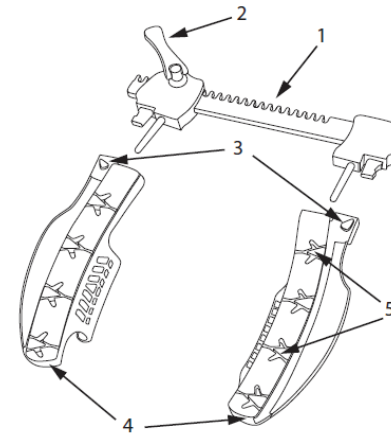

Figure 1
2. Utilizing aseptic technique, attach the Platform Blades onto a reusable Activator Drive Mechanism, matching the correct left and right blades to the correct drive attachment side (Figure 1). Ensure the blades are fully engaged.
The Disposable Platform Blades attach to / detach from a reusable Activator Drive Mechanism (not included) per Figure 1.